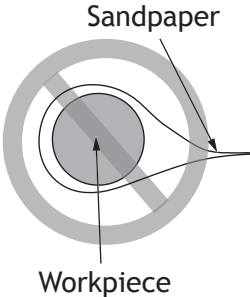

**Figure 42.** Example of lathe prepared for outboard turning.
3. Loosen headstock, then move it all the way to tail end of lathe bed, as shown in **Figure 42**.